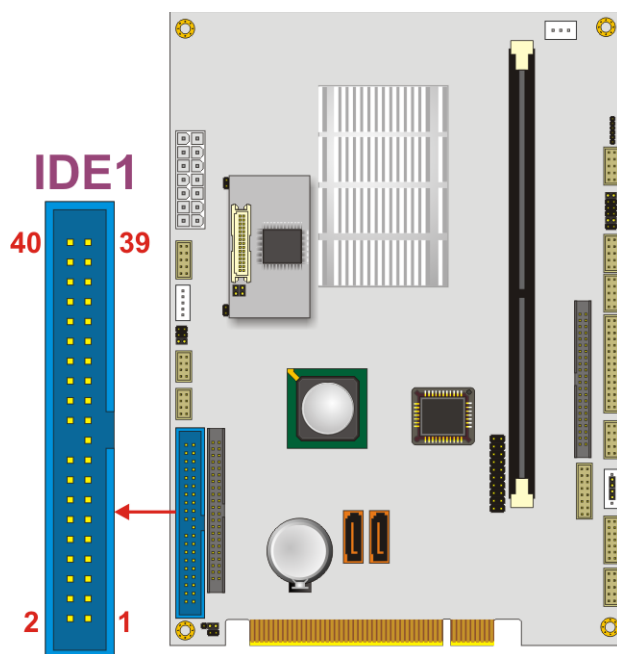

Figure 3-9: Primary IDE Device Connector Location
- CN Location:** See Figure 3-9